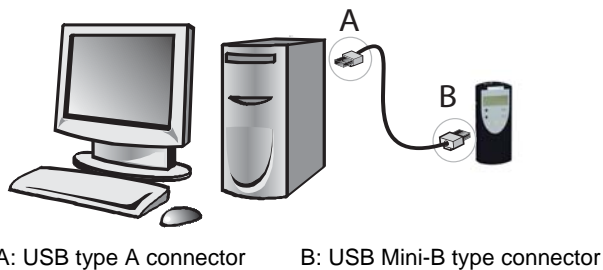

Figure 3
- Insert the SD card in the Multi-Loader and connect the Multi-Loader to the PC via the standard USB type A to Mini-B cable (see **Figure 3** below)